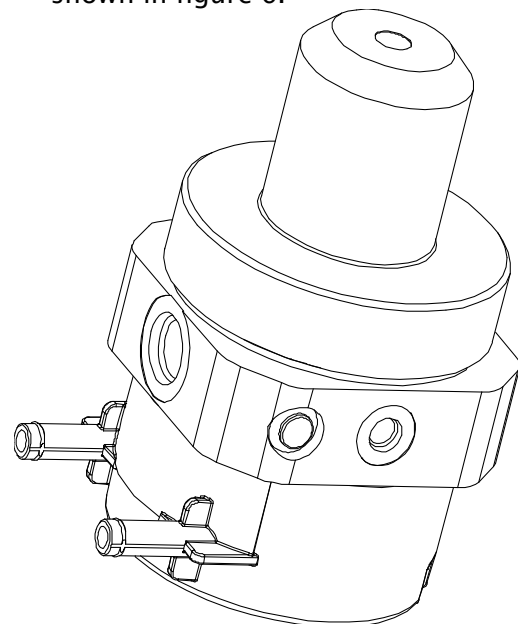

Figure 6 – Regulator with new PRD installed
10. Install a new plastic dust cover by snapping it into the hole of the fractured PRD spring retainer. This is shown in figure 6.